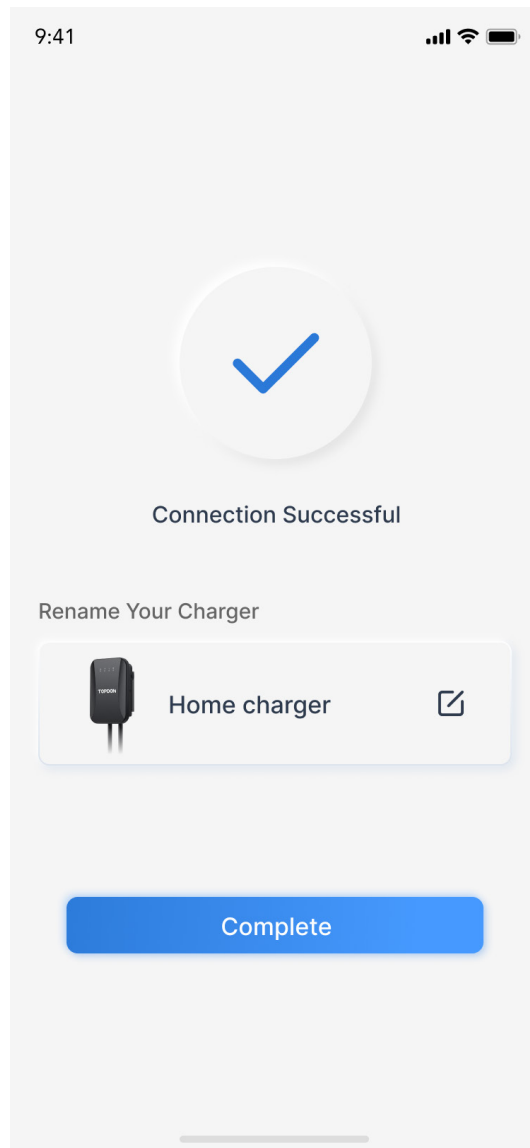

Fig.6.11
11. After successful connection, you can rename your charging station.(See Figure 6.11)